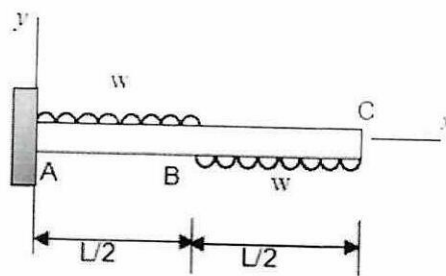

Figure Q2
- Q2** (a) For the cantilever beam and loading shown in **Figure Q2** using the double integral method:-.